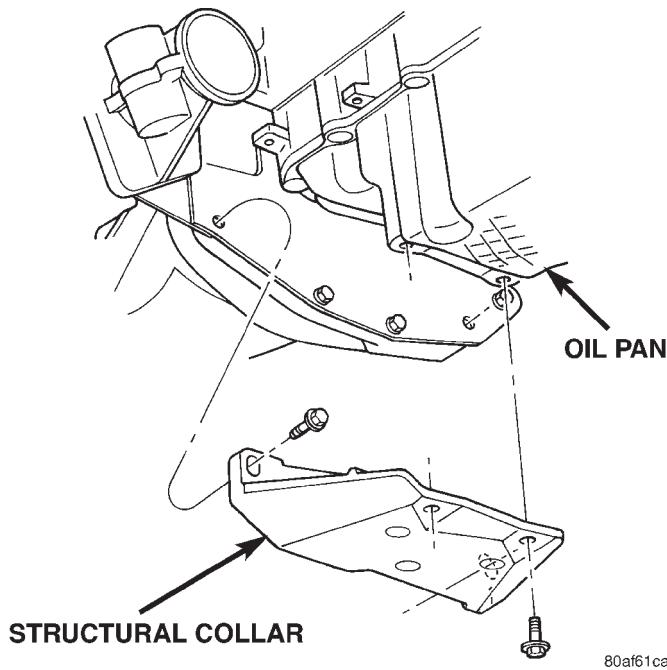

Fig. 15 Structural Collar—Removal and Installation
- (2) Remove structural collar from oil pan to transaxle (Fig. 15).
- (1) Install the structural collar (Fig. 15) using the following 3 step torque sequence: